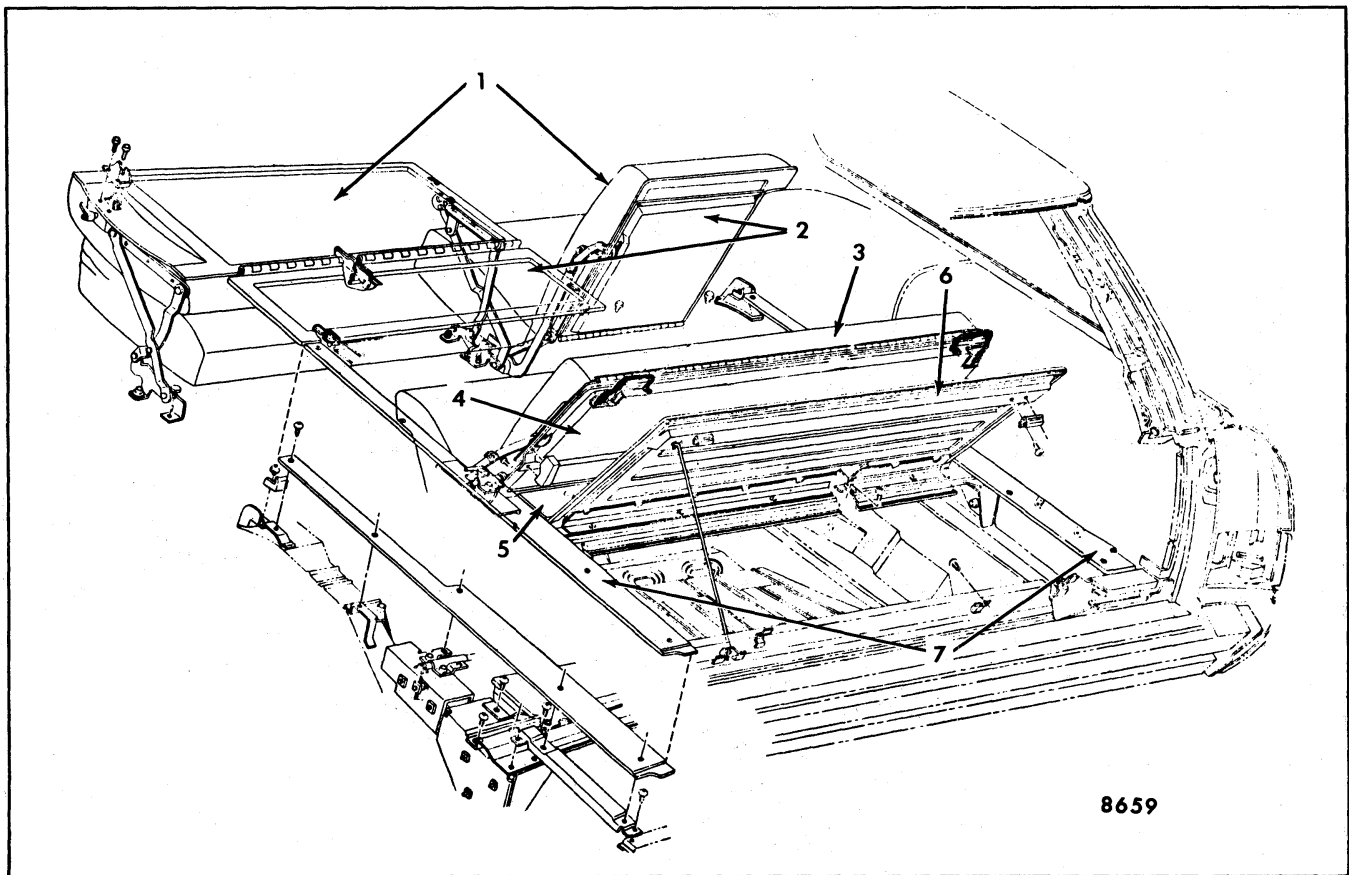

Fig. 9-88-Folding Seats and Load Floor Panels - "B" Body Three-Seat Styles
3. Figure 9-88 is typical of all "B" body three-seat station wagon styles.